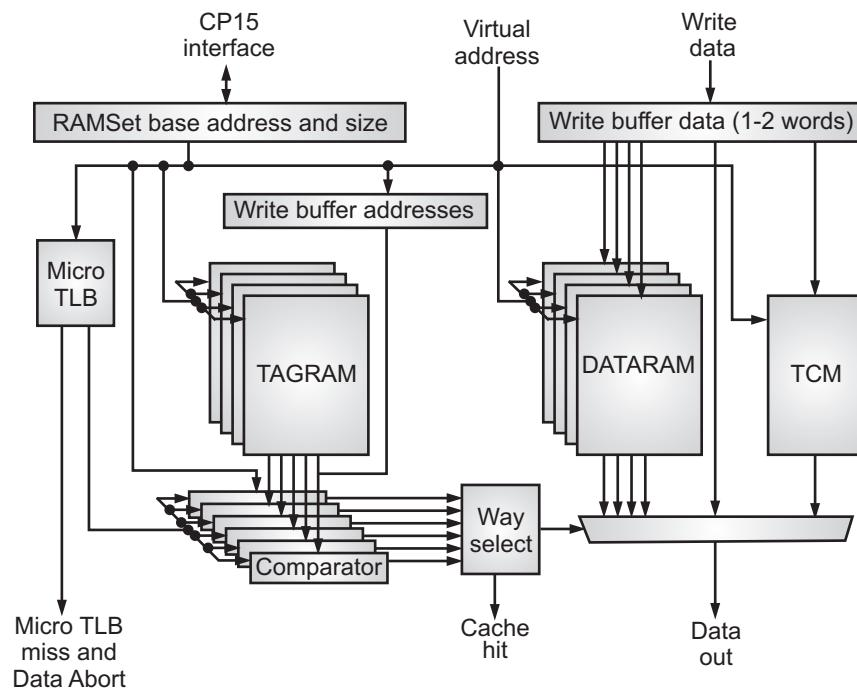

Fig. 2.13 : Level one cache block diagram
- Fig. 2.13 shows blocked diagram of cache subsystem.
- Below Fig. 2.13 shows the block diagram of the cache subsystem. This Fig. 2.13 does not show the cache refill paths.